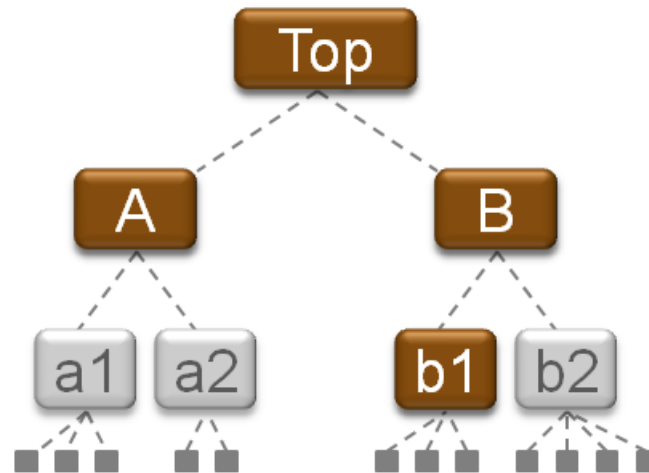

Figure 2: Searching the Design Hierarchy
As an example, Figure 2 shows a hierarchical design where the modules A and B are instantiated at the top-level. Module A includes the a1 and a2 hierarchical instances, and module B includes the b1 and b2 hierarchical instances. Each of a1, a2, b1, and b2 has leaf cells (unisim instances) inside, as indicated in the figure.
The following example is based on Figure 2, page 38 which shows a purely hierarchical netlist.
The `-hierarchical` search is equivalent to manually performing a search at each level of the hierarchy, using the `current_instance` command to set the search scope to a particular hierarchical instance, and return all the objects that match the specified name pattern at that level. The following Tcl code, based on Figure 2, page 38, illustrates this manual process:
**IMPORTANT:** When `-hierarchical` is used with `-regexp`, the specified search string is matched against the full hierarchical name, and `B/.*` will return all cell names that match this pattern. For example, based on Figure 2, `get_cells -hierarchical -regexp B/.*` returns all the cells below the block B. See the *Vivado Design Suite Tcl Command Reference Guide (UG835)* [\[Ref 1\]](#) for more information on `-regexp`.